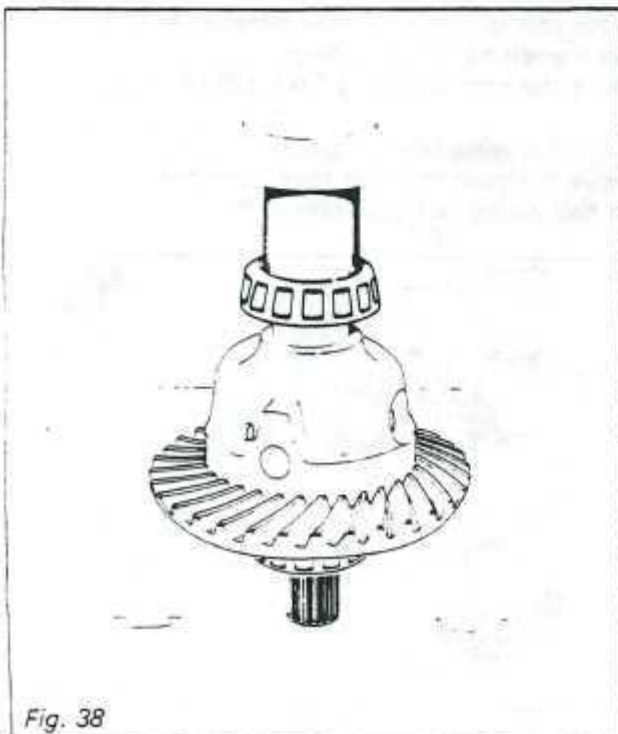

Fig. 38
9. Press the carrier bearing onto the ring gear. (Fig. 38)